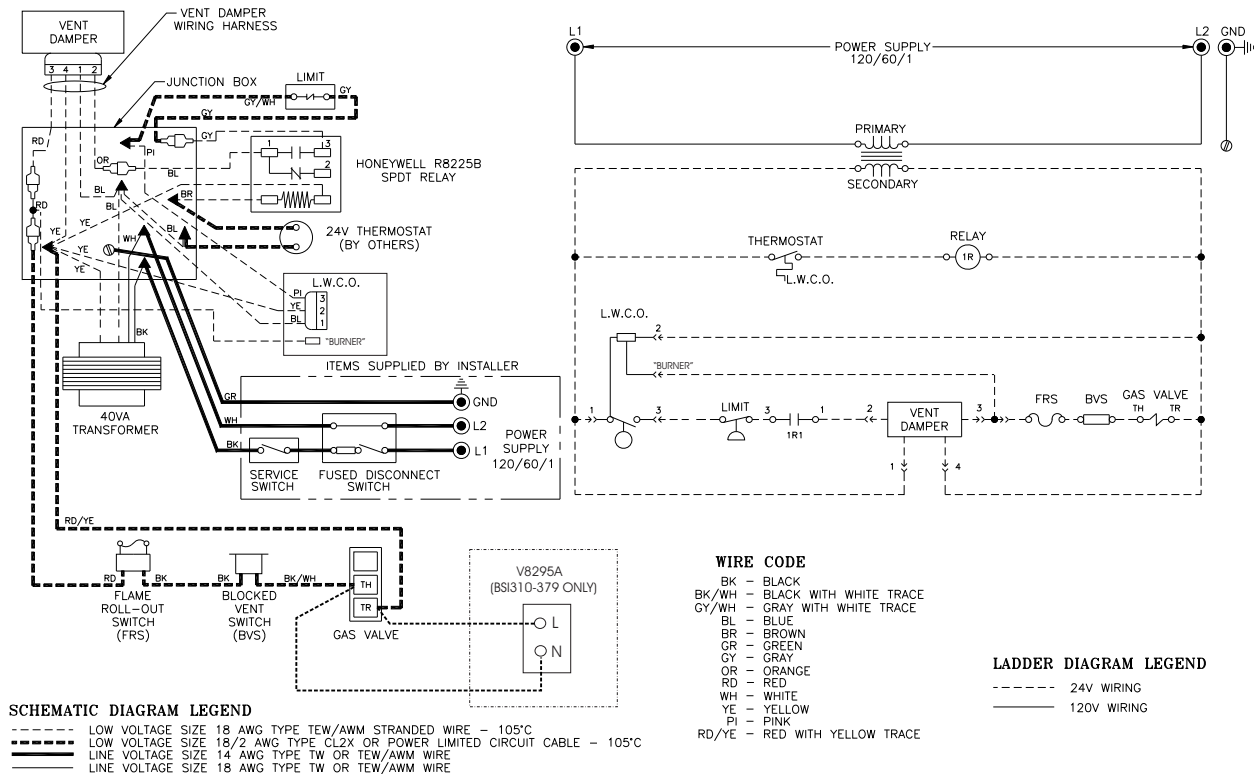

FIGURE 16: WIRING DIAGRAM, STANDING PILOT AND HYDROLEVEL CG-400A LOW WATER CUTOFF
- 1) 120 Volt Wiring - The boiler should be provided with its own 15A branch circuit with fused disconnect. All 120 volt connections are made inside the junction box on the left side of the boiler. Remove the transformer to gain access to this box (also see Figures 16 through 19):
(Refer to Figures 16 through 19 for ladder and connection diagrams)